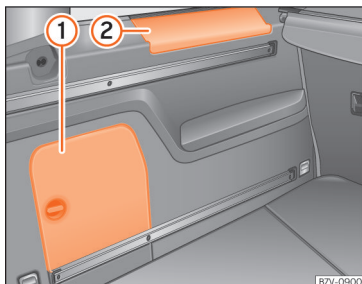

Fig. 167 In the luggage compartment: side storage compartment.
There are other compartments »» Fig. 167 ① and ② in the side of the boot. To open the